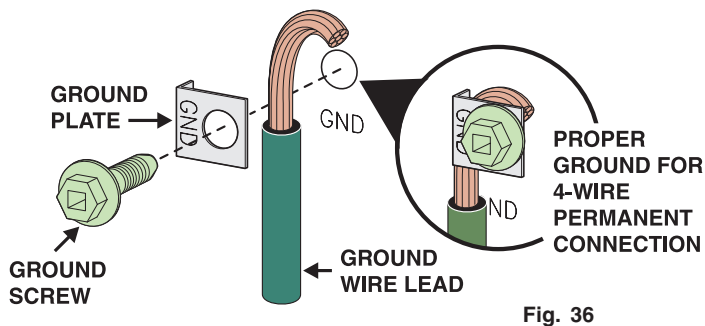

Fig. 36
4. **(4-Wire Permanent Connection ONLY)** Connect the ground wire lead (Green) to the frame of the appliance using the ground screw & plate as shown in Fig. 36. Be sure to install using the same hole in the frame where the ground screw was originally installed.